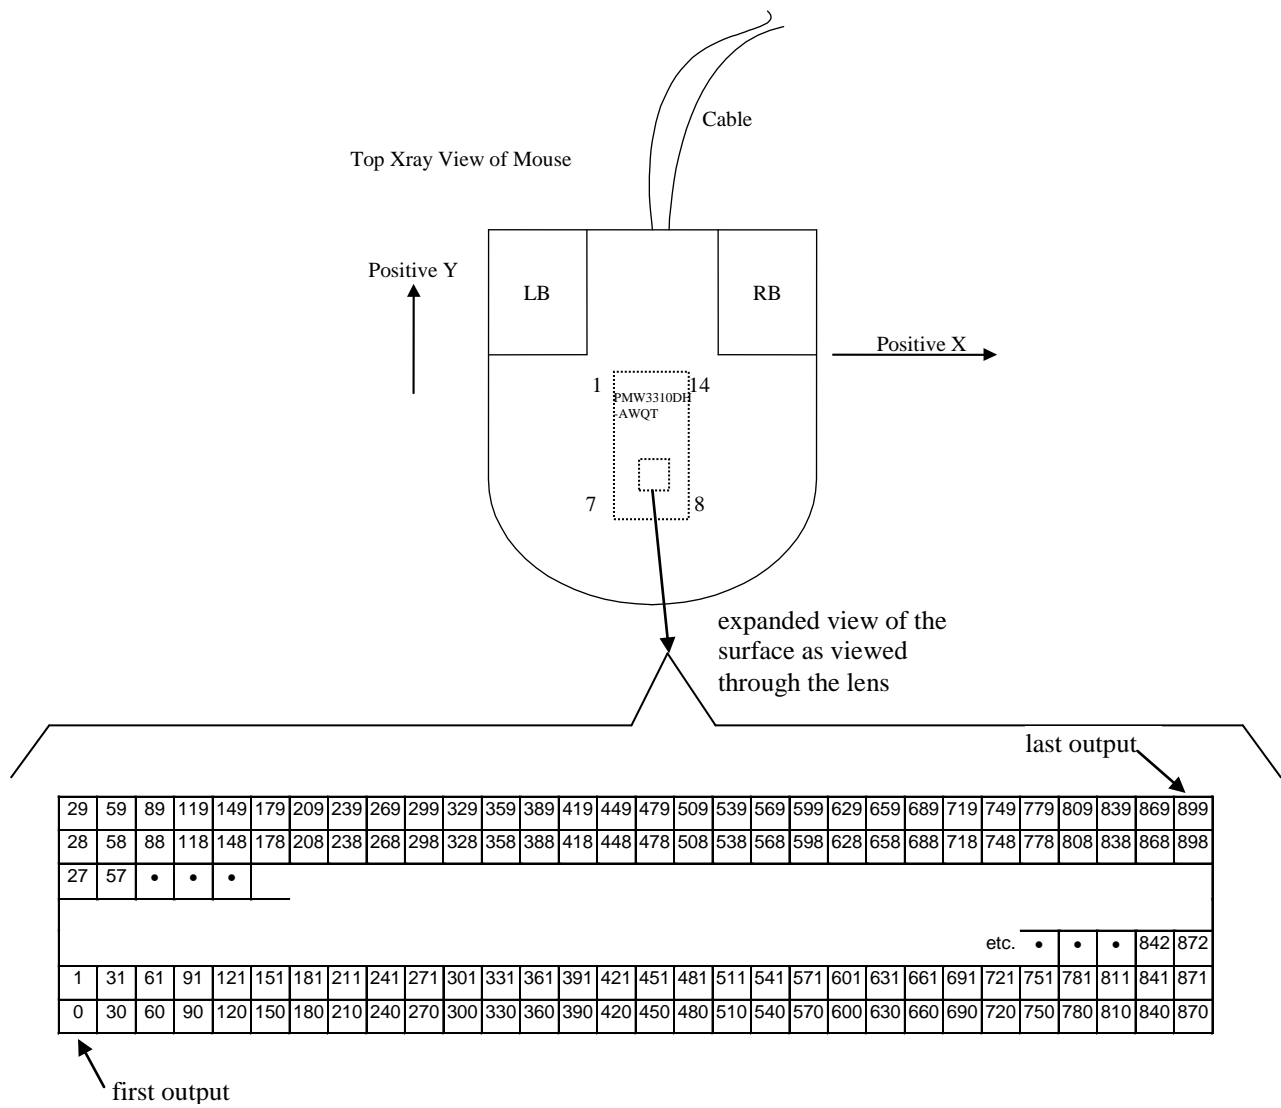

Figure 22. Pixel Map (Surface referenced)
6. Continue read from Pixel_Burst register until all 900 pixels are transferred. Refer to Pixel Map in Figure 22.